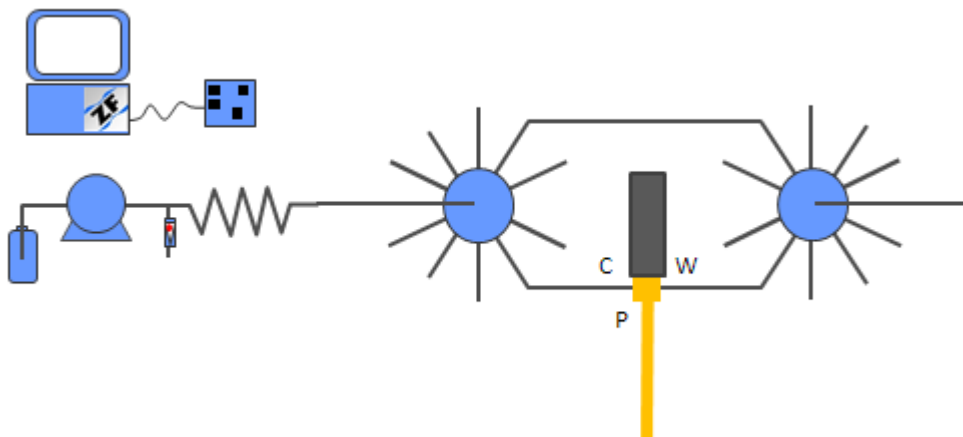

Figure 21: Flow manifold for Sampling with Dilution
Figure 21 shows the Zone Fluidics flow manifold for sampling with dilution. The sample probe has three ports; a common port (C) that is plumbed back to the primary selection valve (SV-A), a waste port that is